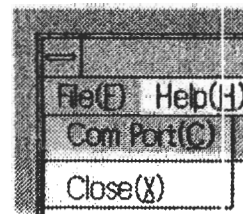

Figure 4-5
① "File(F)" pull-down menu (Figure 4-5)